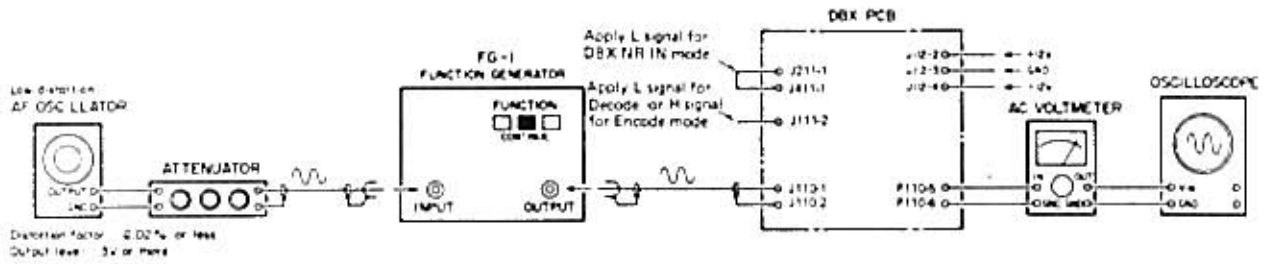

Fig. 1-6-2 RMS Symmetry Adj. & Level Adj.
A. RMS Symmetry Adjustment (Connection: Fig. 1-6-2)
C. Decoding Level (Connection: Fig. 1-6-2)
D. Frequency Response (Connection: Fig. 1-6-2)
F. Decode Effect Check (Connection: Fig. 1-6-2)
C. Encoding Level (Connection: Fig. 1-6-2)
F. Encode Effect Check (Connection: Fig. 1-6-2)